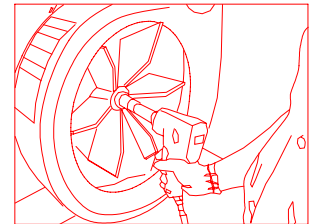

Fig. 6
2. Disconnect the negative battery cable (black) (item 12) from the battery.
3. Remove the hose coupler assy from the unit (item 36).
5. Remove the intake housing assembly (item 33) using 1/2" socket and socket wrench to remove (12) locknuts and washers (item 60 & 63). Be careful to place intake assembly to the side without putting excess strain on safety switch wire harness
6. Remove impeller bolt and lock washer using 5/8" socket and impact wrench (see fig. 6).